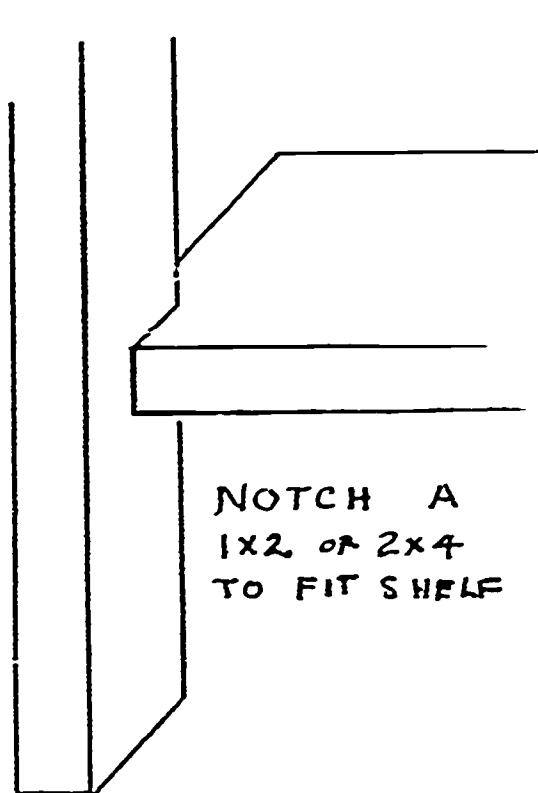

FIG. 233
- a. Cut to length and notch out all four supports at the proper intervals by using a crosscut saw and cutting $\frac{1}{3}$ the thickness of the support. See figure 233.
- c. Fasten each shelf in the four notches provided, by nail or wood screw. Counter sink if desired. See figure 233.